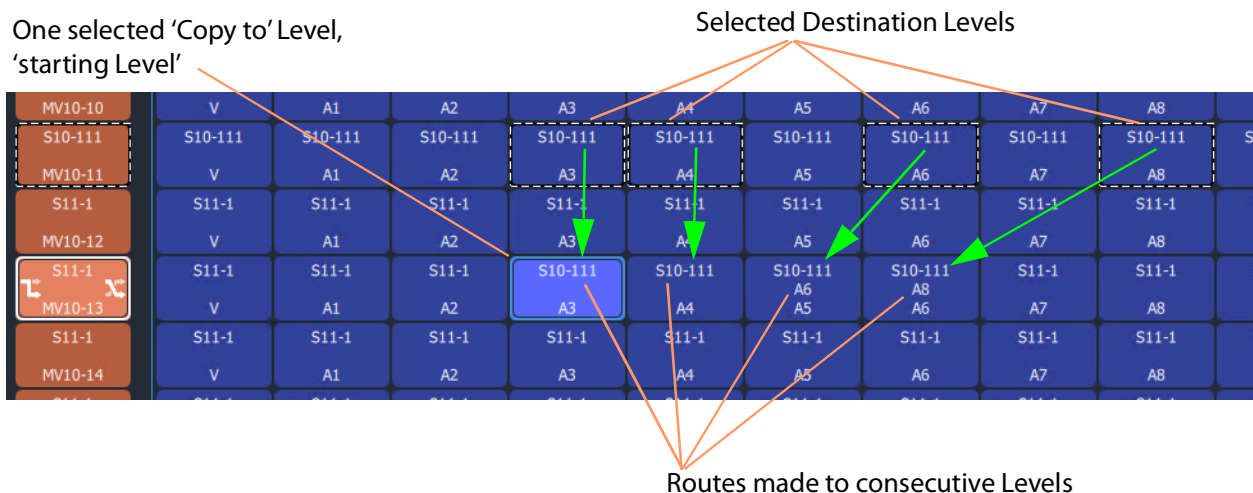

Fig. 5-87: Result of CTRL-V Paste
- 1 Select Destination Levels and copy them. For example, A3, A4, A6 and A8, see Figure 5-87.
Routes are made to consecutive Destination Levels and the copied routing is applied to the 'Copy to' Destination Level and to subsequent, consecutive Destination Levels. See Figure 5-87 for the result of CTRL-V paste from the copied Destination Levels.